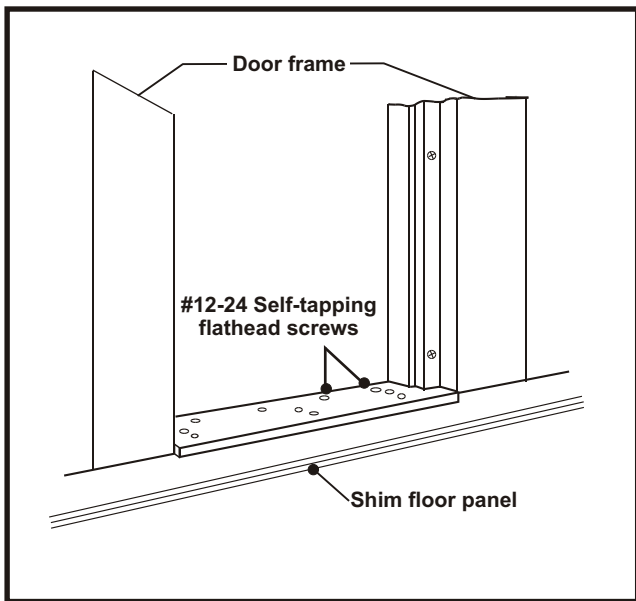

Fig. 18
- G. Secure the door stepplate to the Shelter floor. With the door open, use a 3/16" diameter bit to drill through the prepunched holes of the stepplate. Secure the stepplate with #12-24 self-tapping flathead screws. See Fig. 18.